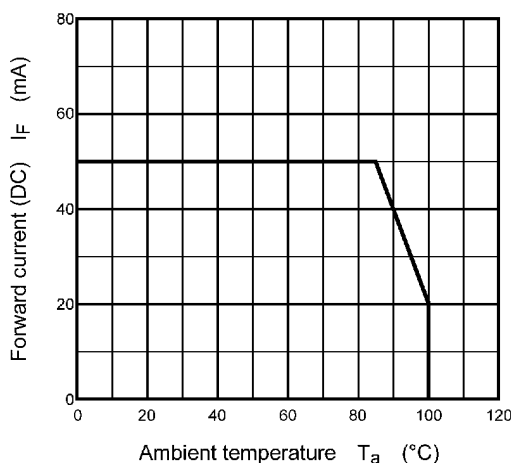

Fig. 4.1 Forward Current Derating, $I_F - T_a$
| Forward current (DC) | I_F | See Fig. 4.1 | 50 | mA |